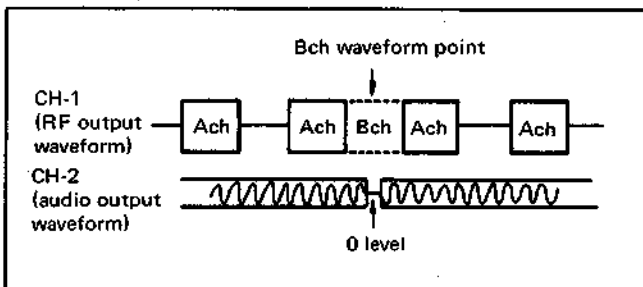
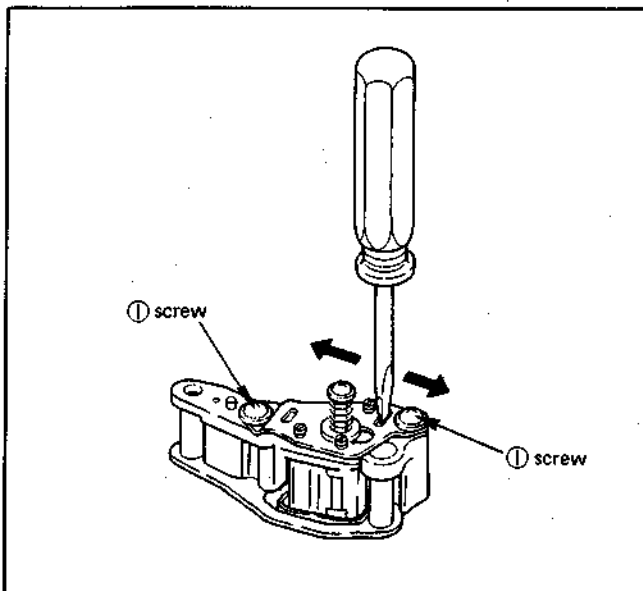

Fig. 3-26
Fig. 3-27
- (1) Connect the oscilloscope as follows:
- (2) Replay the tracking portion of the alignment tape (KR5-1M).
- (3) Turn the tracking control knob back and forth, and confirm that the output waveform level is maximum at the center click position, and that the 0 level of the audio signal is at the point where the RF output waveform Bch waveform appears, as shown in Fig. 3-26. If adjustment is necessary, proceed as follows.
- (4) Tracking Control Center Adjustment
- (5) CTL Head Position Adjustment
Set the tracking control knob at the center click position and loosen the two ACE assembly position adjustment screws ①. As shown in Fig. 3-27, slide the ACE assembly with a screwdriver until it is in the position shown in Fig. 3-26 and the RF output waveform is maximum. Tighten the screws when this position is obtained.
- (6) Replay the color bars of the alignment tape and check the picture quality.